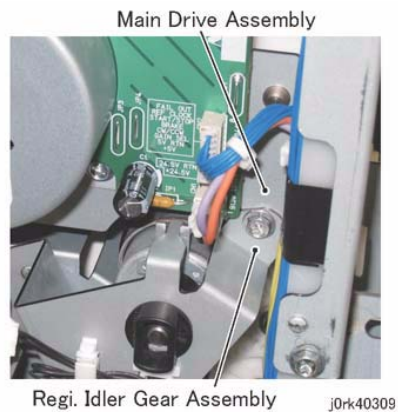

Figure 3 Reg Idler Gear Assy Install
4. Reinstall the Registration Idler Gear Assembly. (Figure 3)